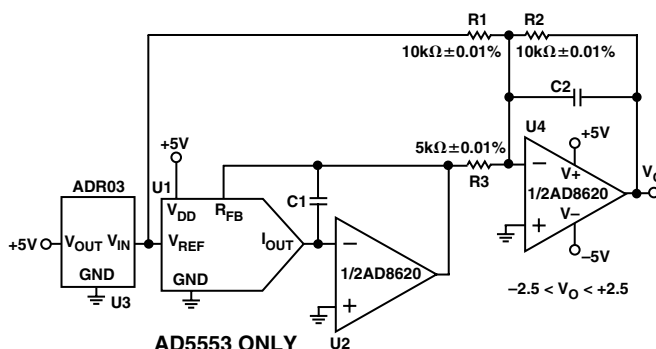

Figure 9. Four-Quadrant Multiplying Application Circuit
In some applications, it may be necessary to generate the full 4-quadrant multiplying capability or a bipolar output swing. This is easily accomplished by using an additional external amplifier U4 configured as a summing amplifier (see Figure 9). In this circuit, the second amplifier U4 provides a gain of 2 that increases the output span magnitude to 5 V. Biasing the external amplifier with a 2.5 V offset from the reference voltage results in a full 4-quadrant multiplying circuit. The transfer equation of this circuit shows that both negative and positive output voltages are created as the input data (D) is incremented from code zero ( $V_{OUT} = -2.5$  V) to midscale ( $V_{OUT} = 0$  V) to full-scale ( $V_{OUT} = +2.5$  V).